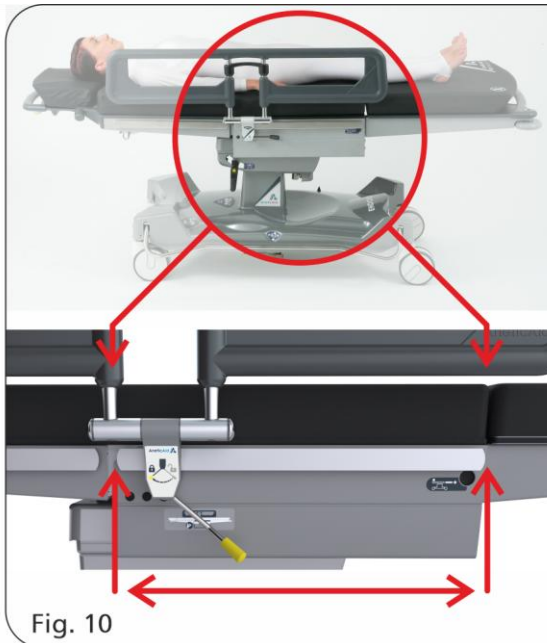

Fig. 10
- Firstly, with the siderails on the mid-section the patient coverage is adequate for both the upper and lower torso with the backrest either horizontal or articulated; see fig 10.